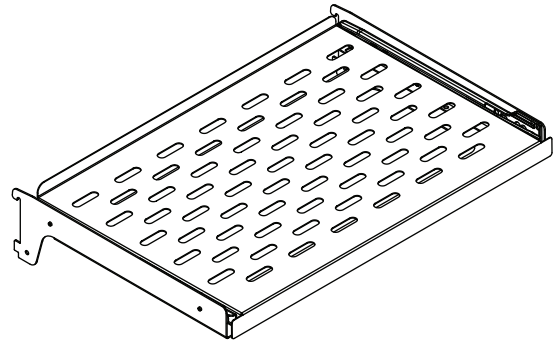

Figure 15
- (1) perforated stainless steel slide out shelf (See Figure 15).